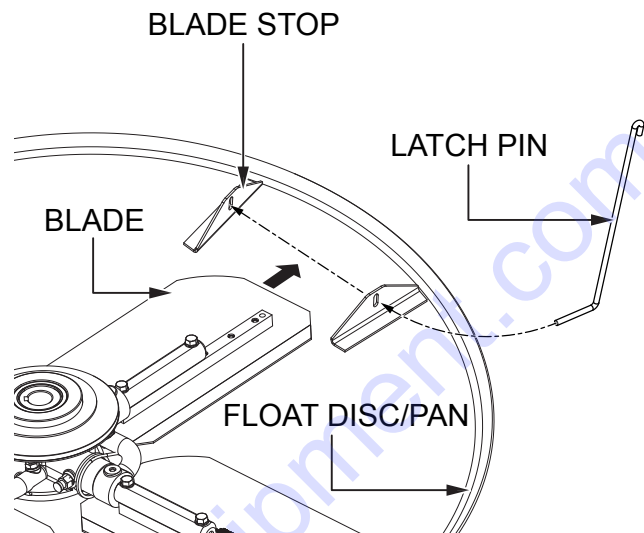

Figure 18. Float Pan Installation (Latch Pins)
1. Lift the trowel just enough to slide the float pan under the blades. Lower the trowel onto the pan with the blades between the blade stops (Figure 18).
3. Route the latch pins through the blade stop holes as shown in Figure 18.